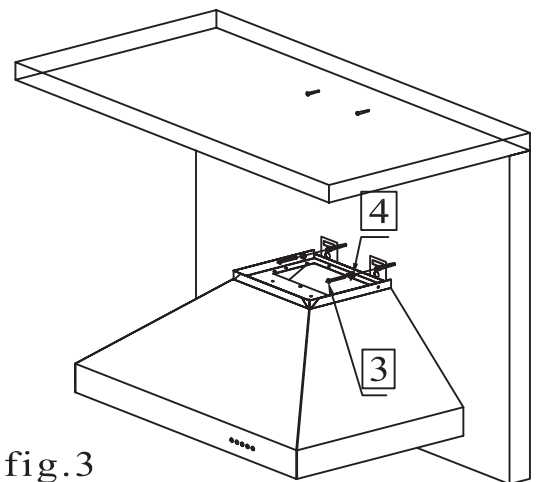

fig.3
**Step four:** Mount the main body of the hood to the two screws and screw into place. fig 3